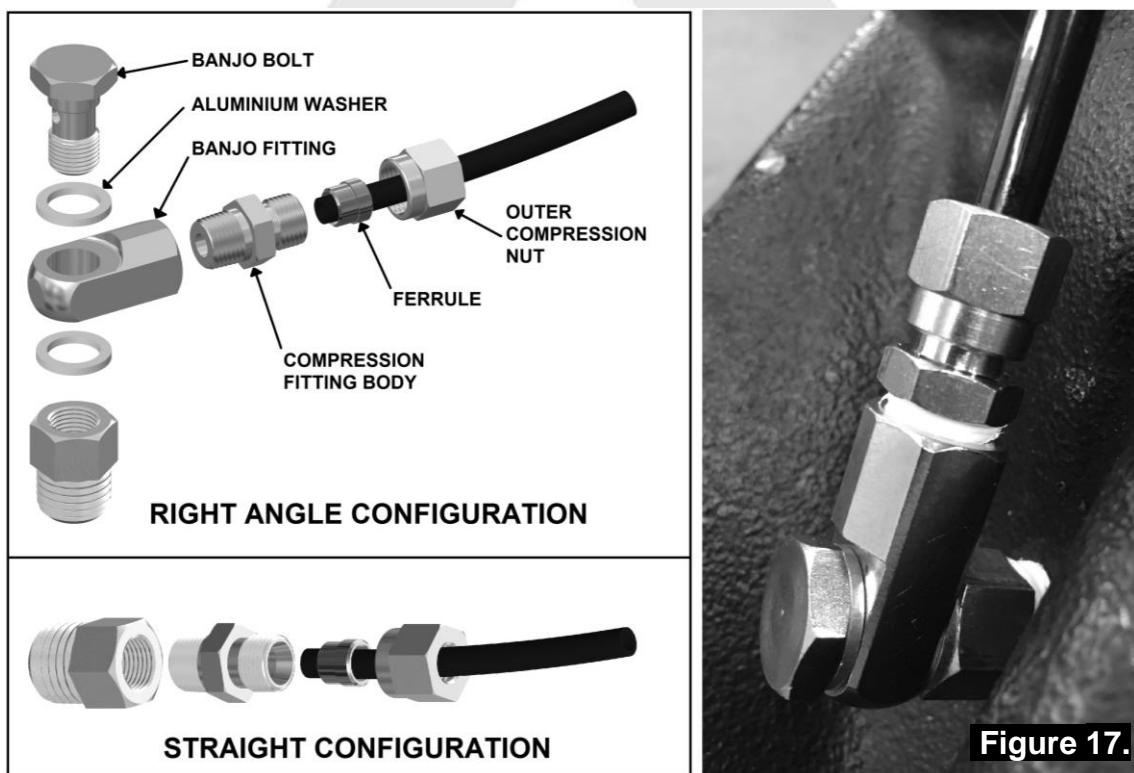

Figure 17.
- Assemble an aluminium washer onto the banjo bolt and insert through the banjo fitting. Assemble second aluminium washer and tighten into bulkhead fitting using a 14mm [9/16"] spanner. (Fig.17.)
- Insert the outer compression nut and ferrule over the air line. Ferrule should be orientated as per Fig.17.
NOTE : When right angle routing of the tube is not required, screw the compression fitting body straight into the bulkhead fitting body (Fig.17.).